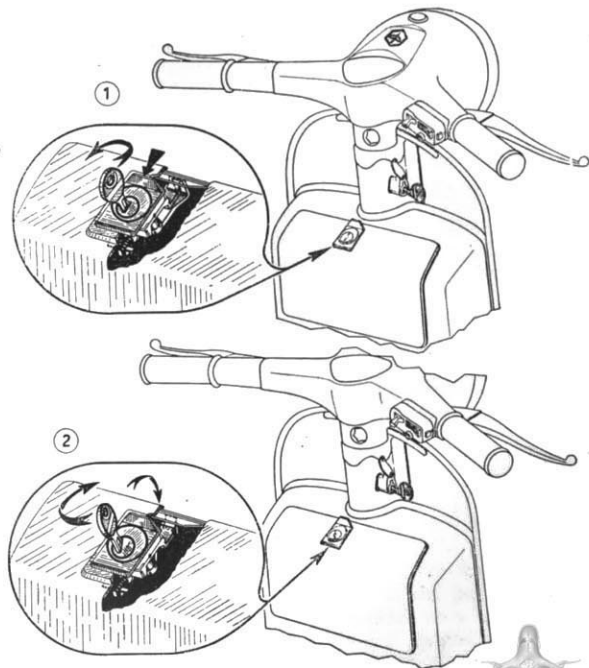
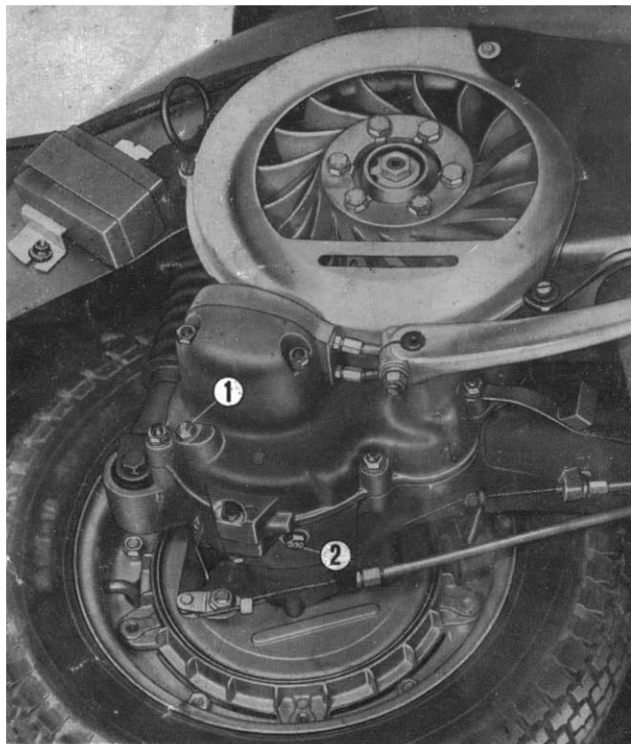

Fig. 4 - Front tool box lock scooterhelp.com
Fig. 16 - Oil filler hole (1); oil draining hole (2).
<p data-bbox="144 215 412 280">2. Front tool box lock</p> <p data-bbox="144 591 452 656">BEFORE OPERATING THE VEHICLE</p>	<p data-bbox="489 215 1105 513">To open the flap door of the front box insert the key in the lock and turn it fully anticlockwise, then slide down the external plaque of the lock (fig. 4). In order to close it, close the flap door until the lock clicks against the tool box; then turn the key clockwise and withdraw.</p> <p data-bbox="489 581 1105 726">Unscrew the plug on the gear box marked « OLIO » (fig. 16) and check that the oil is on a level with the hole when the vehicle is standing upright.</p>
- 1) - Check oil level in gear box (Fig. 16).